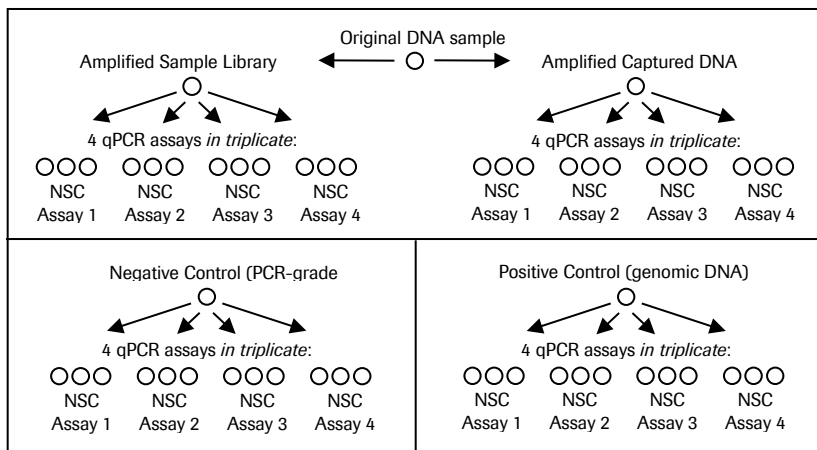

Figure 6: qPCR experimental overview
- The negative and positive controls will each require twelve additional qPCR reactions (*Figure 6*).